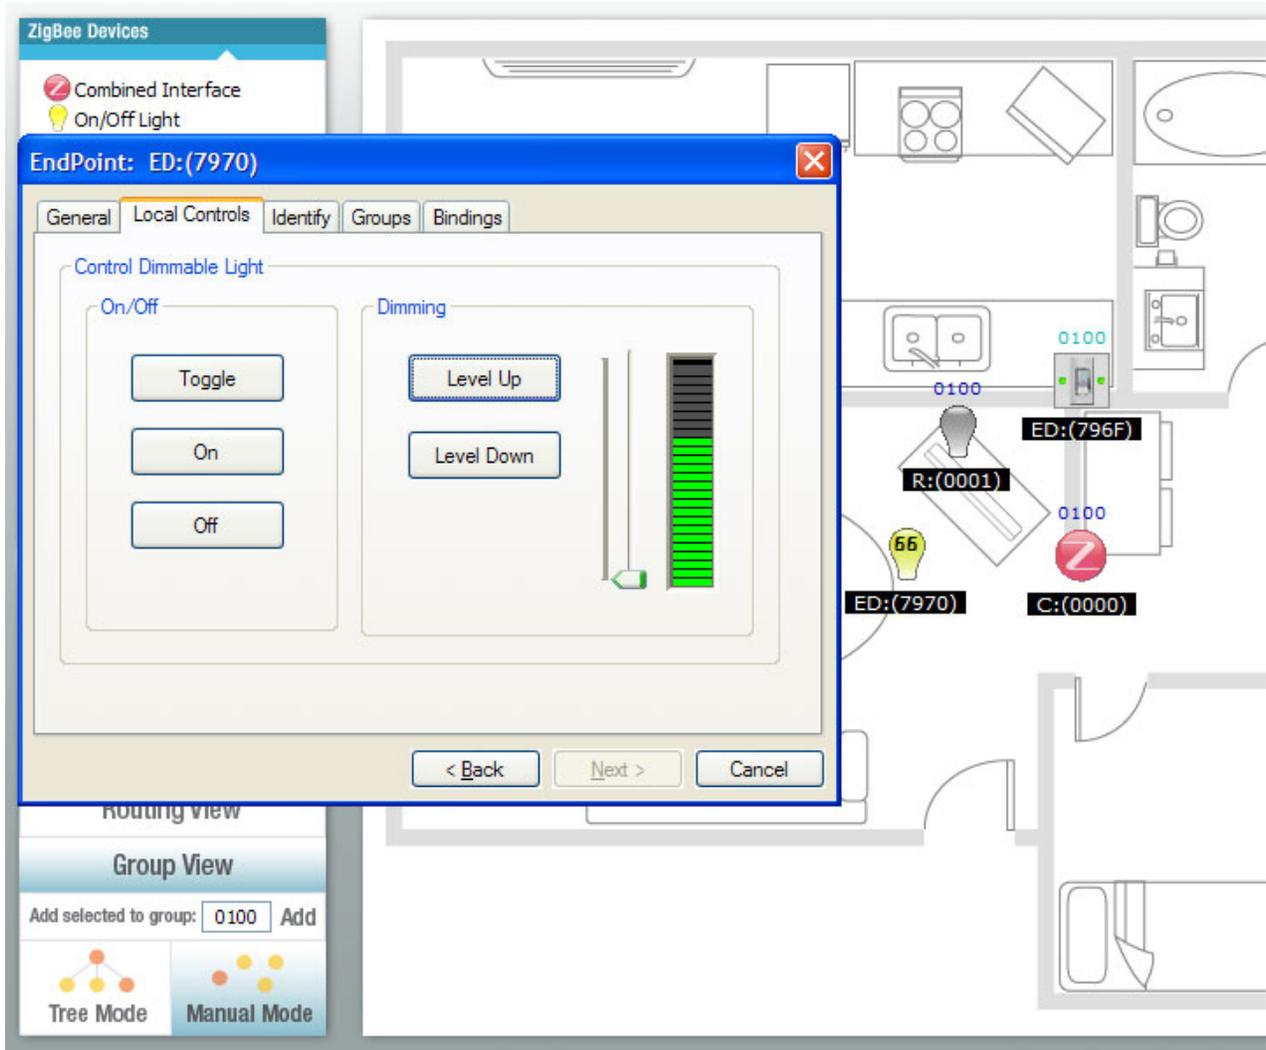

Figure 4-21. Dimmable Light Changing State from off to dim
- Press the Level Up button twice. The value (as a percentage) in the Dimmable Light icon moves up to 33% and then to 66% as shown in Figure 4-21. LED2 and LED3 on the board also turn on to simulate that the light is changing state from off to dim.